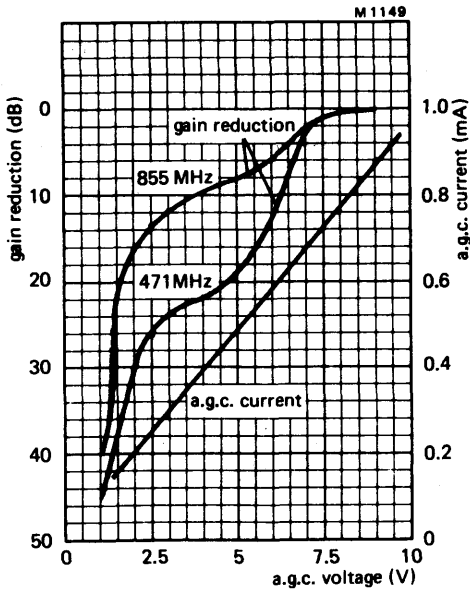

Fig.5
A.G.C. voltage (Fig.5)
A.G.C. current (Fig.5)